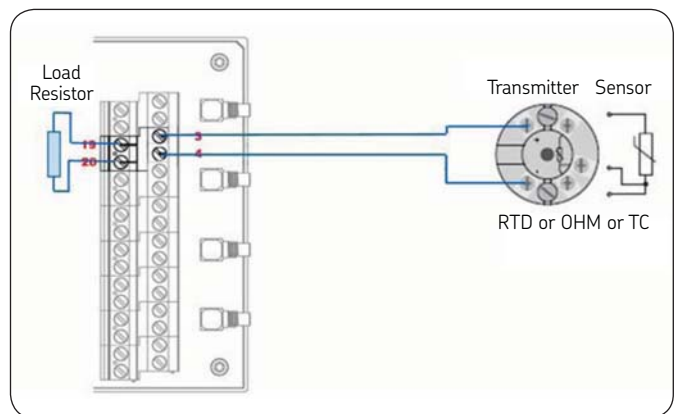

Figure 3. Temperature transmitter to SKF Multilog DMx connection.
An extract from the SKF Multilog DMx manual illustrating a typical connection to the SKF Multilog DMx is shown in **Figure 3**. The transmitter receives an RTD or thermocouple as its input, and provides a 4 to 20 mA current signal as its output. A load resistor on the SKF Multilog DMx is required to convert the current output from the transmitter to a voltage.
As show in **Figure 3**, a load resistor is required across the SKF Multilog DMx input terminals. The current (I) from the transmitter generates voltage (U) over the load resistor (R).